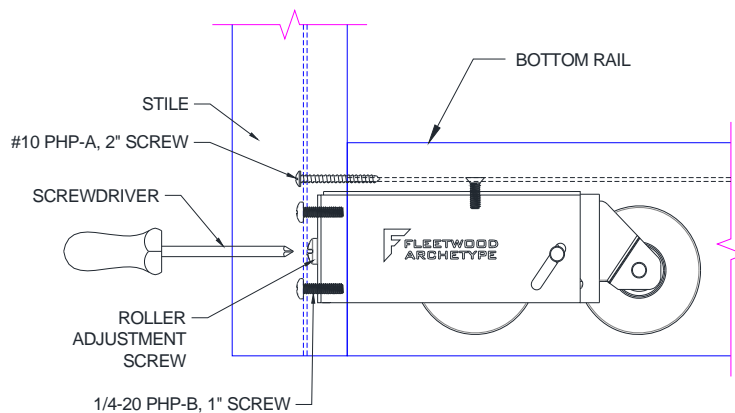

Figure 8:
- Install (2) 1/4-20 UNC x 1" long pan head screws to bottom of interlocker stile or lead stile. Screws attached vertical rails to Roller Housing (Figure 8).
- Adjust the roller assemblies (2 required per "X" panel) to the full up right position using the adjustment screw (Figure 8).